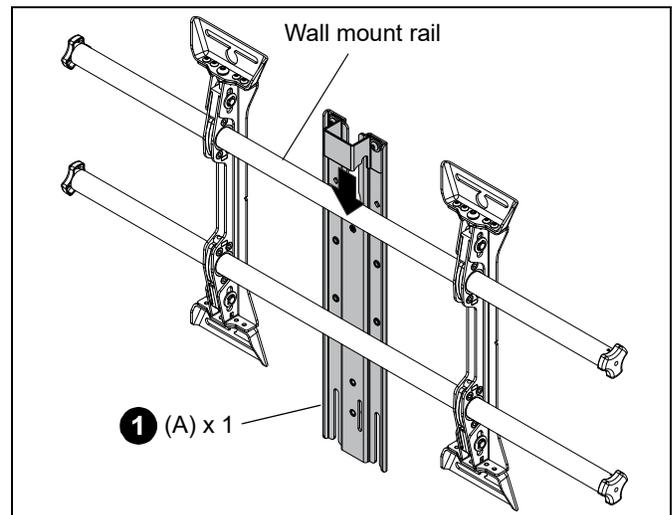

Figure 3
1. Slide upright assembly (A) behind wall mount rails until rail bracket rests on top of wall mount rail. (See Figure 3)